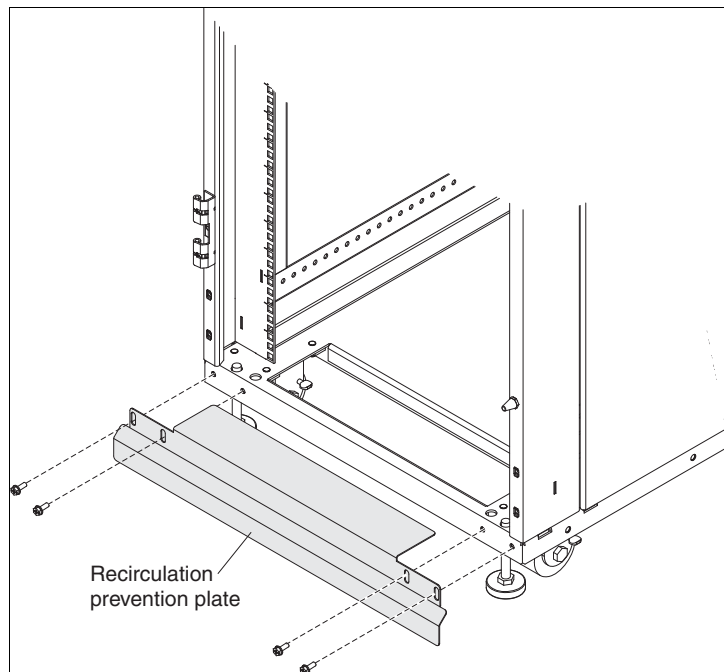

Figure 5-10 Attaching the recirculation prevention plate
- ▶ As shown in Figure 5-10, a recirculation plate is used to prevent warm air that is entering from the rear of the rack from passing under the rack and into the front of the servers. This plate is not required if the stabilizer bracket is installed.